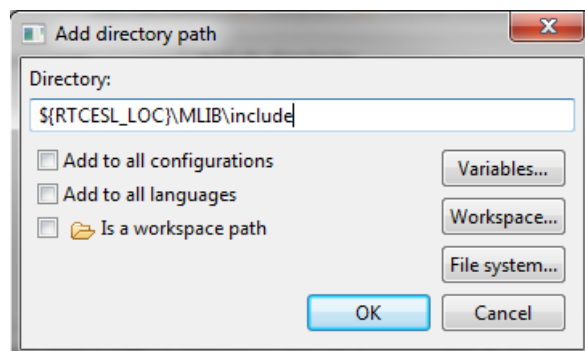

Figure 1-14. Library include path addition
28. Click the Add... button on the right, and a dialog appears. See Figure 1-14.